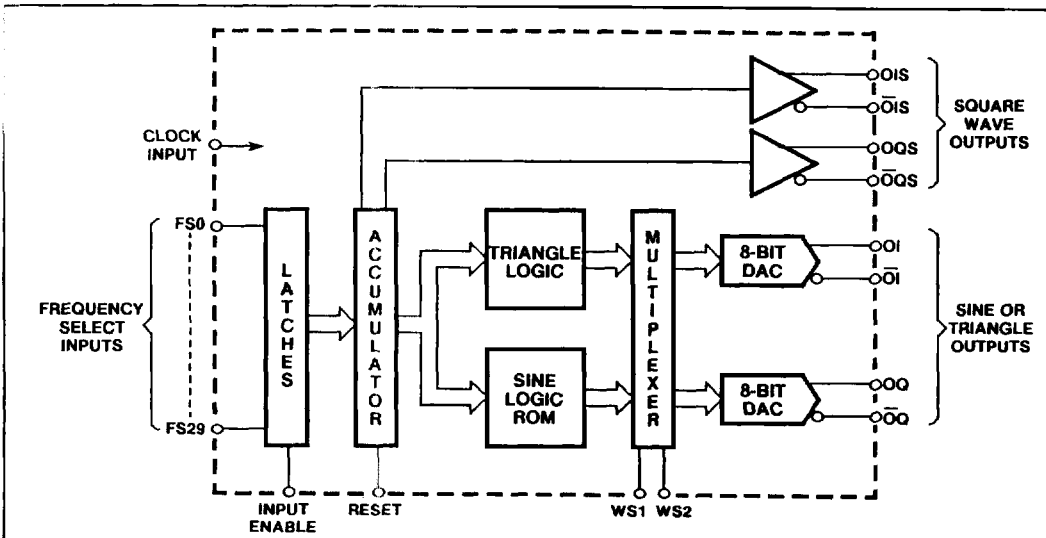

Fig. 2 SP2002 direct frequency synthesiser block diagram
(1) The power taken by the synthesiser depends upon the 'Waveform Select' inputs (see Fig. 2). The I_{EE} current quoted is for the square wave plus sine wave 'I' and 'Q' outputs where all the SP2002 circuitry is powered up. The output waveform options and associated I_{EE} currents are shown in Table 1. (2) The SP2002 will operate at any clock frequency below 1.8 GHz e.g. at $f_c = 214\text{MHz}$, output frequency range = 0.1Hz to 50MHz in steps of 0.1Hz. (3) Levels refer to the highest rather than total spurious power. A sine wave output and clock frequency of 1.8 GHz is assumed. These figures will degrade by 10 to 20dB for triangle and 20 to 30dB for square wave output. (4) Minimum figure assumes only MSB Frequency Set Input is changed. Maximum figure assumes LSB Frequency Set Input is changed. (5) A suitable heatsink should be attached to the studs on the top of the package. (6) Assuming no spurious output at the offset frequency.
Referring to the block diagram of Fig. 2, Waveform Select (WS) pins are provided to enable programming of different output waveform combinations by hard-wiring to the supplies as shown (see Table 1). Depending on the output option chosen, unused circuitry on-chip is automatically turned off to conserve power.
Referring to Fig. 2, the basic operation is as follows. Frequency Set data is entered via the data latches to an accumulator which is incremented by the clock input.